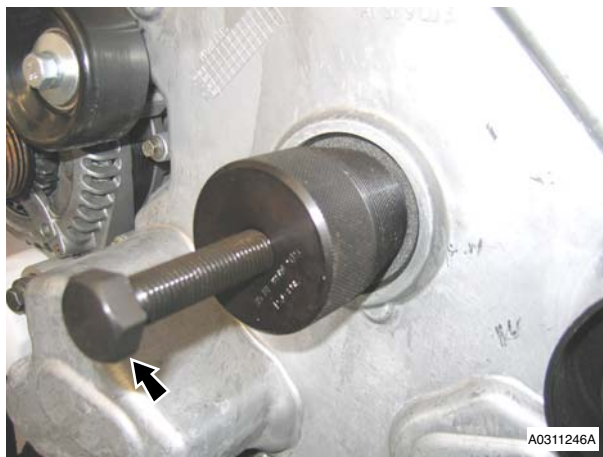

Figure 2
- Tighten centre bolt of tool (303-1190) and withdraw oil seal from timing cover (see Figure 2).